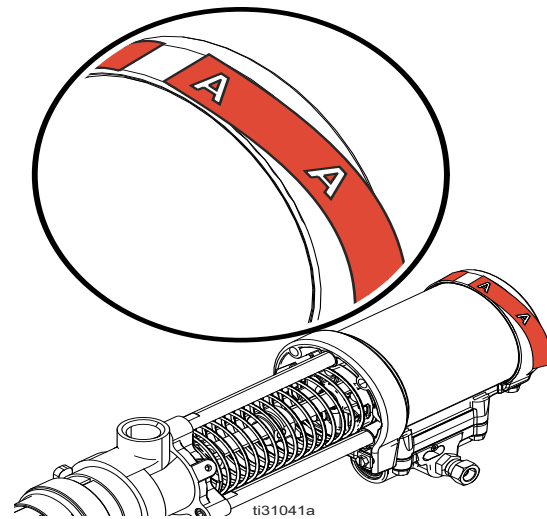

FIG. 8
4. Use labels provided to identify the appropriate pump for your material. See FIG. 8.